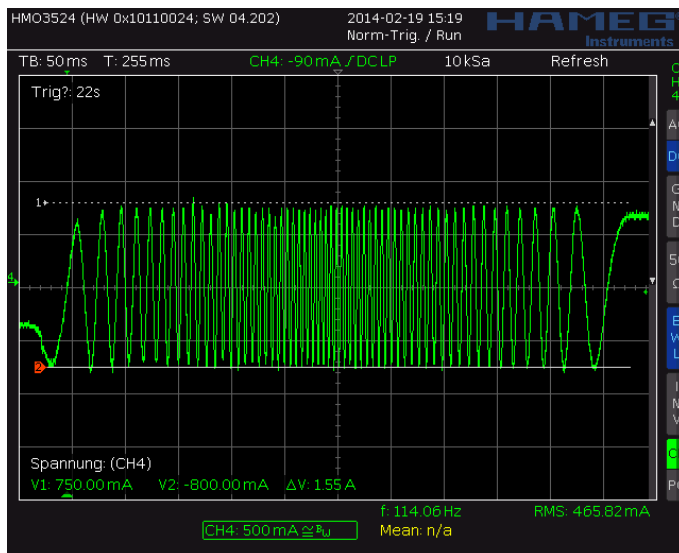
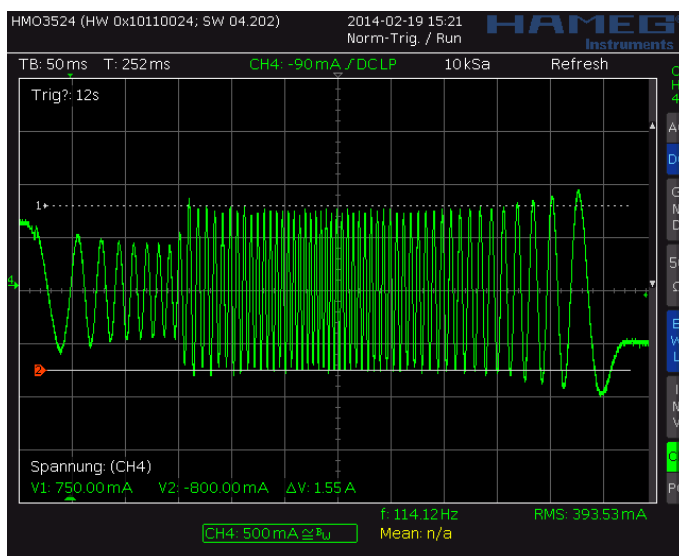
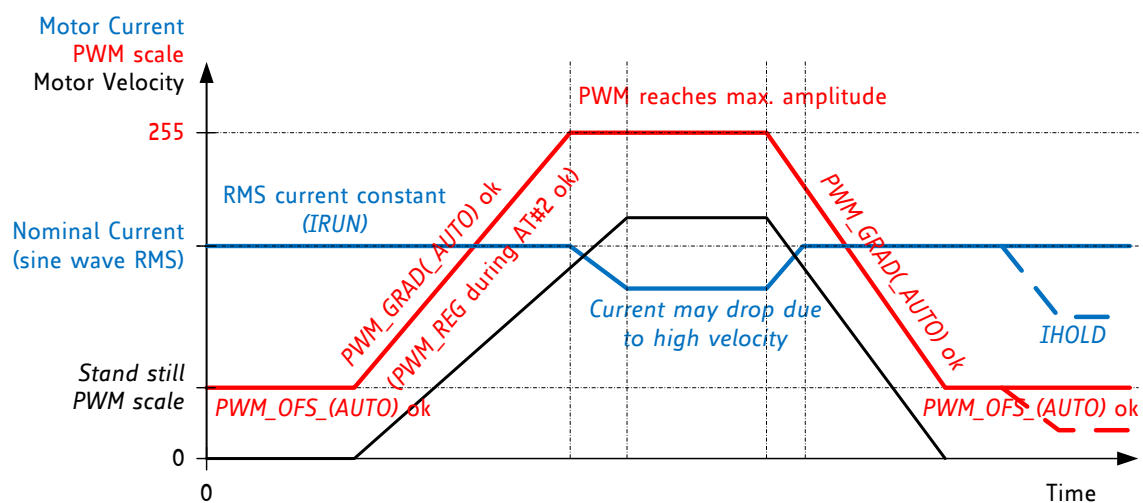

Figure 7.3 Scope shot: good setting for PWM_REG
Figure 7.4 Scope shot: too small setting for PWM_REG during AT#2
Figure 7.5 Successfully determined PWM_GRAD(AUTO) and PWM_OFS(AUTO)
In StealthChop voltage PWM mode, the autoscaling function (*pwm_autoscale* = 1, *pwm_autograd* = 1) regulates the motor current to the desired current setting. Automatic scaling is used as part of the automatic tuning process (AT), and for subsequent tracking of changes within the motor parameters. The driver measures the motor current during the chopper on time and uses a proportional regulator to regulate *PWM_SCALE_AUTO* in order match the motor current to the target current. *PWM_REG* is the proportionality coefficient for this regulator. Basically, the proportionality coefficient should be as small as possible in order to get a stable and soft regulation behavior, but it must be large enough to allow the driver to quickly react to changes caused by variation of the motor target current (e.g. change of VREF). During initial tuning step AT#2, *PWM_REG* also compensates for the change of motor velocity. Therefore, a high acceleration during AT#2 will require a higher setting of *PWM_REG*. With careful selection of homing velocity and acceleration, a minimum setting of the regulation gradient often is sufficient (*PWM_REG*=1). *PWM_REG* setting should be optimized for the fastest required acceleration and deceleration ramp (compare Figure 7.3 and Figure 7.4). The quality of the setting *PWM_REG* in phase AT#2 and the finished automatic tuning procedure (or non-automatic settings for *PWM_OFS* and *PWM_GRAD*) can be examined when monitoring motor current during an acceleration phase Figure 7.5.